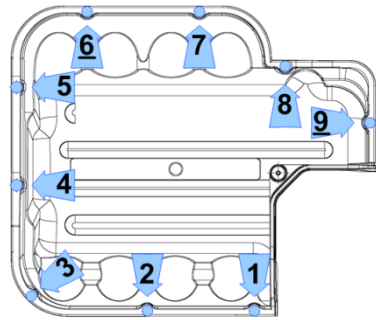

Figure 32 – Top Cover Torque Sequence
- Place the Top Cover and secure it with the nine (9) M5x15 screws according to the following sequence. Follow the sequence twice. The first time, only fasten screws half way down to allow for adjustments. Torque to 13 in.lb. on the second pass. Refer to Figure 32 (Top Cover Torque Sequence).